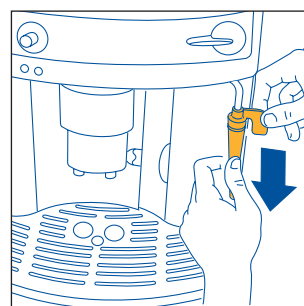

Fig.26
- Remove the steam nozzle from the delivery spout by pulling it downwards (Fig. 26).